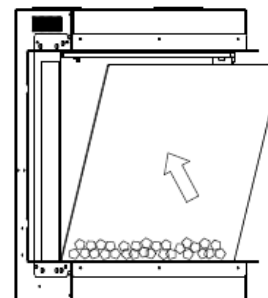
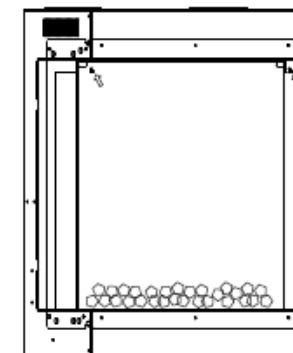

Fig.3
Fig.4
- Use a screwdriver to unscrew the screws in the top and bottom of the glass. Then remove the glass (Fig. 4).
- Insert the glass back (Fig. 3) and secure the screws with a screwdriver (Fig. 4).